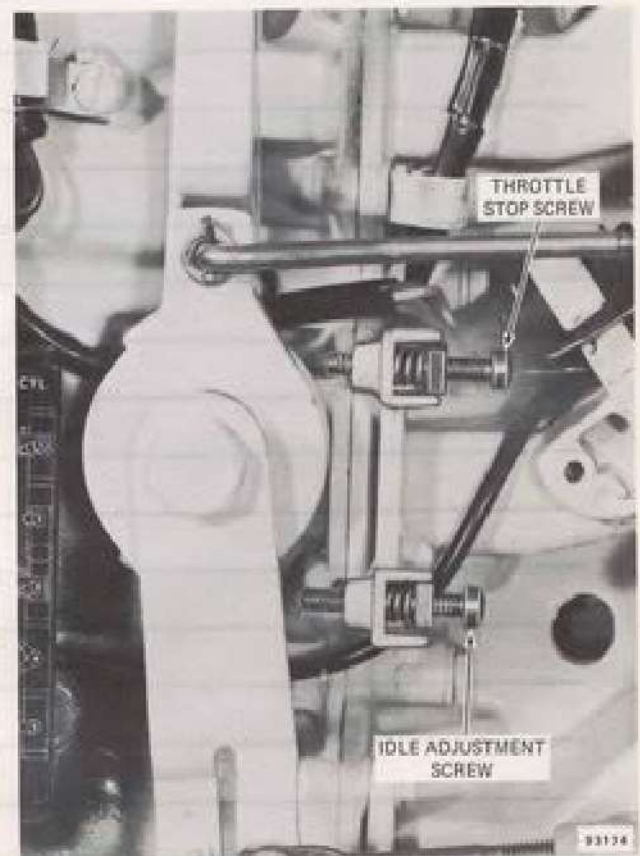

Figure 2-18. Throttle Adjustment Screws
b. Adjust wide open throttle stop screw so that throttle valves go full open without strain on throttle shafts. See Figure 2-18.
Adjust idle stop screw so that engine idles at 750 rpm (maximum) in forward gear. See Figure 2-18.